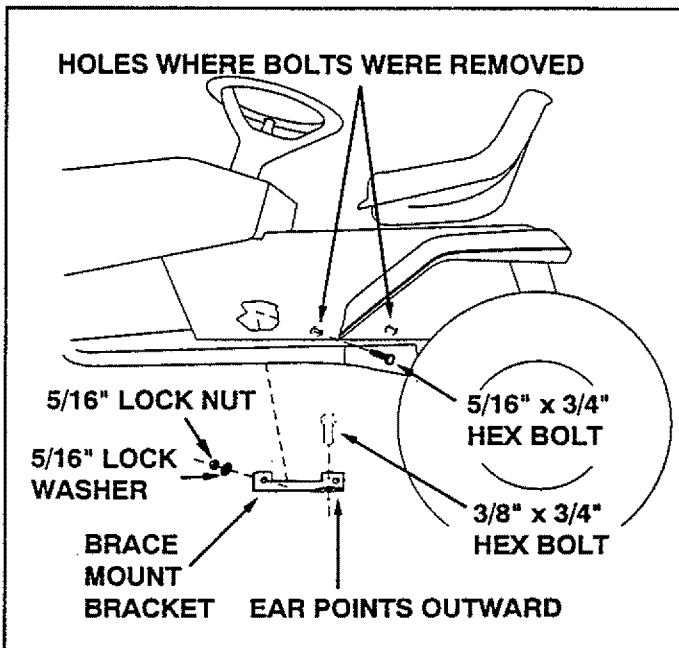

FIGURE 11 (Left Hand Side View)
- On both sides of tractor, remove and discard the bolts in the two holes located directly in front and behind the fenders as shown in figure 11. Insert a 3/8" x 3/4" hex bolt down through the ear of each brace mount bracket. Attach the L. H. bracket to the left side of the tractor on the inside of tractor frame using two 5/16" x 3/4" hex bolts, lockwashers and lock nuts as shown in figure 11. Ear of bracket should be to the rear and facing outward. Repeat for right side using R.H. bracket. **Do not tighten.** See figure 11.